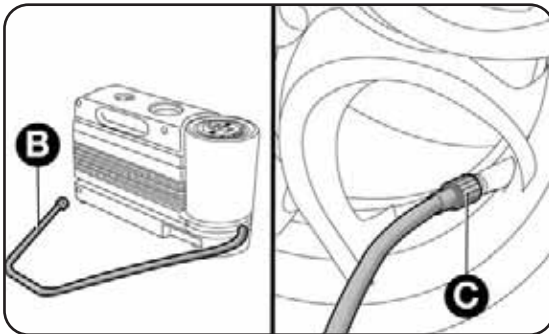

fig. 16
- Make sure the handbrake is on, unscrew the tyre valve cap, take out the flexible filling pipe, B-fig. 16 and screw down the ring nut C on the tyre valve;